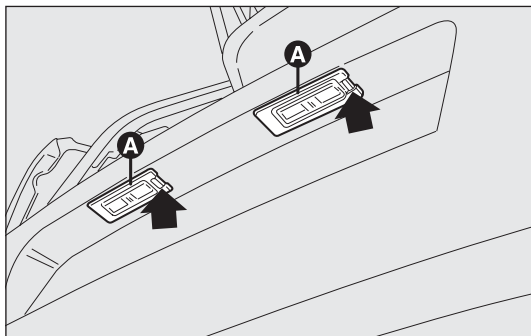

fig. 178
- ☐ manipulate the point shown by the arrow and remove the lens unit A-fig. 178;